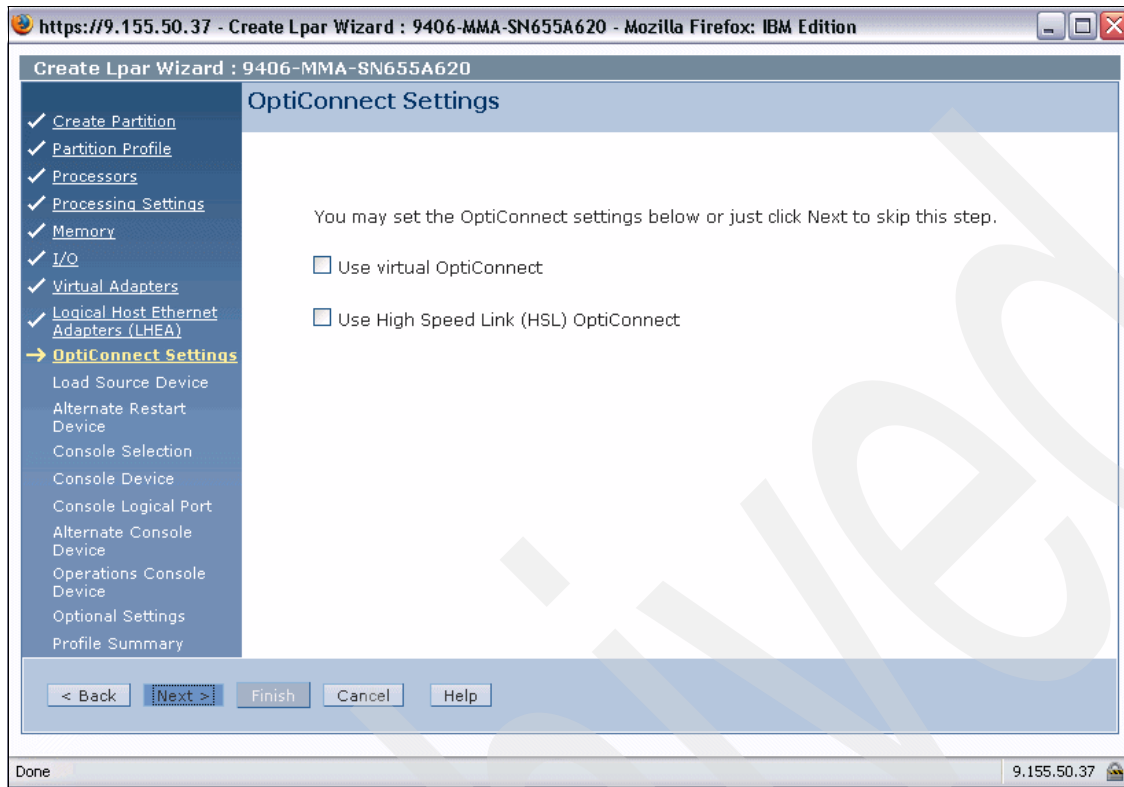

Figure 6-36 Create LPAR OptiConnect Settings dialog
16. We do not want to use OptiConnect connectivity for our IBM i client partition so we click **Next**, as shown in Figure 6-36, to proceed.